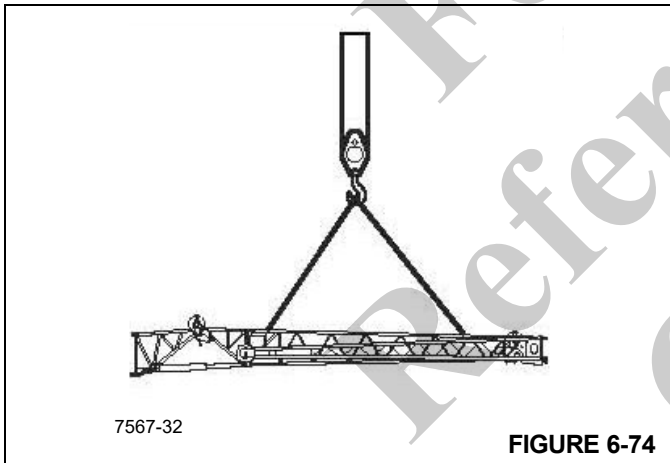

FIGURE 6-74
5. Using a sling attached to an auxiliary crane, lift the extension in front of the main boom (Figure 6-74).